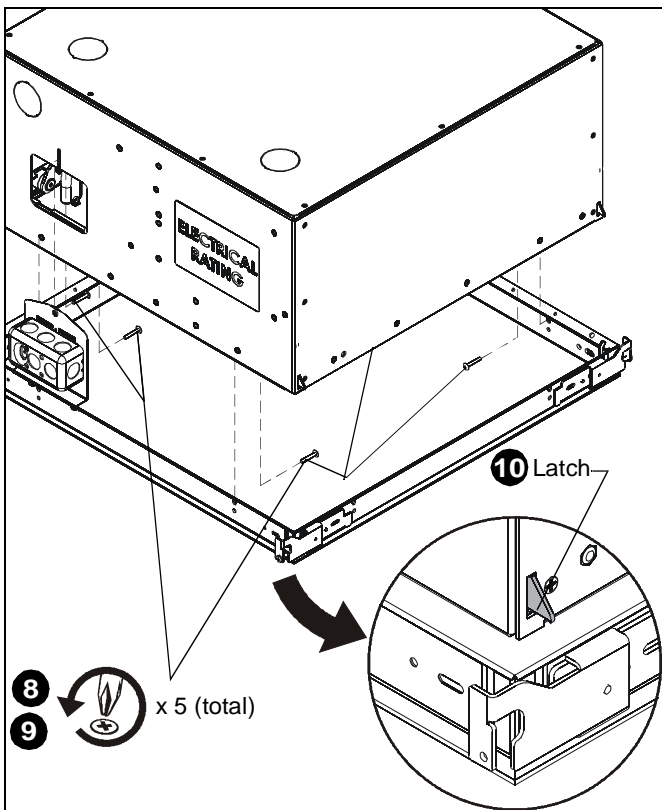
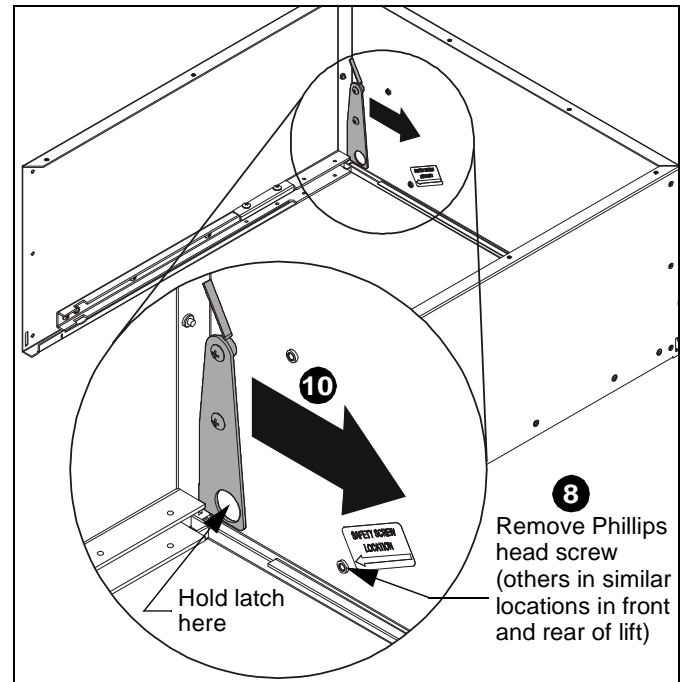

Figure 5
Figure 6
8. Remove four Phillips head screws holding the SL220 to the frame, two from the front and two from the back of the SL220. (See Figure 5) and (See Figure 6)
9. Remove one Phillips head screw holding the outlet box attachment plate to the SL220. (See Figure 5)
- Using opening on latch, pull latch away from corner and either push slightly away or pull slightly towards self to lock latch within SL220 lift. (See Figure 6)